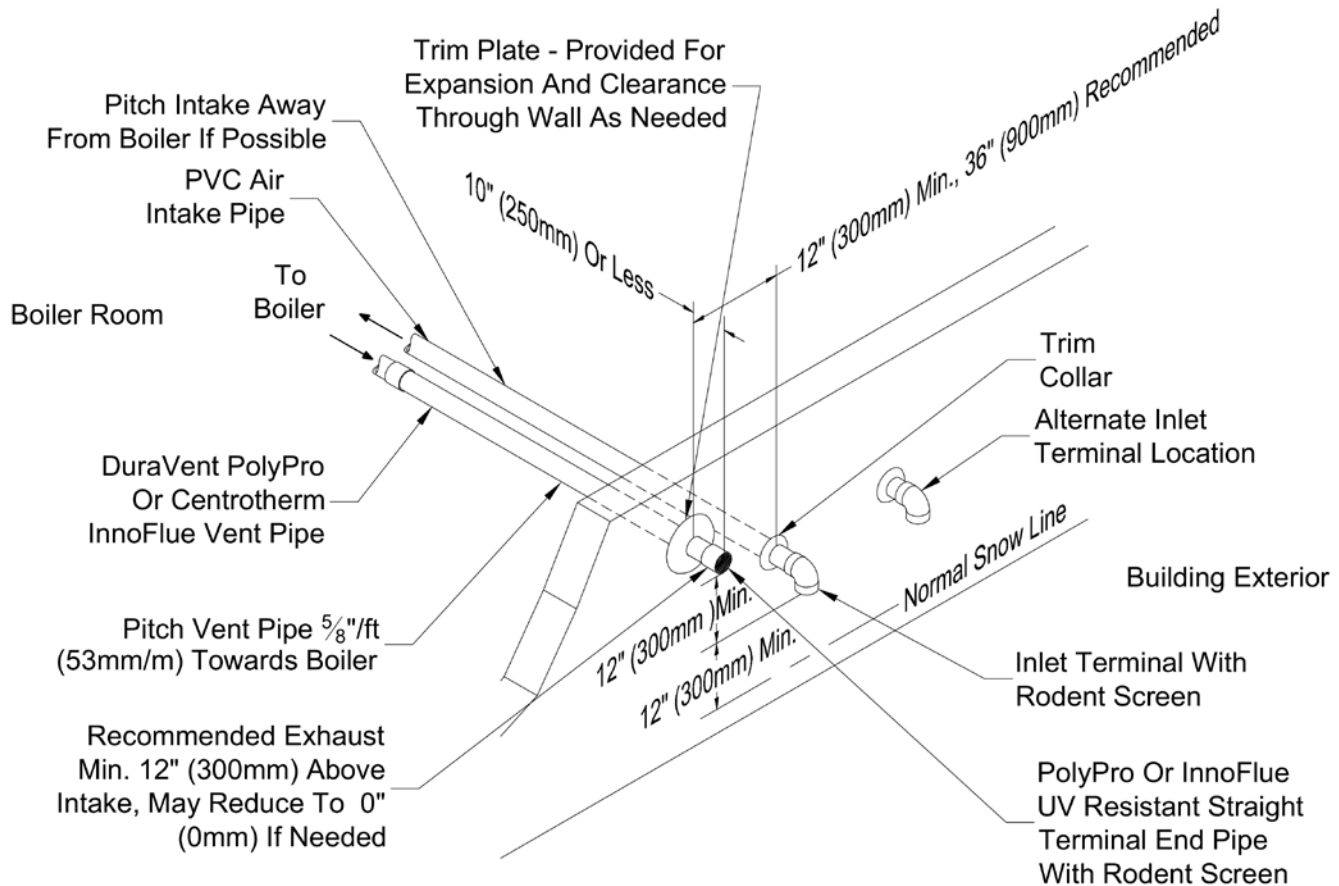

**Figure 7.7: Horizontal CPVC/PVC Venting with Low Profile Terminal, (Vent Options #1 & 2, Terminal Options B & C)**
**Terminal Option B: Ipex Low Profile Terminal (Acceptable for Vent Options 1,2)** – This terminal is shown in Figure 7.7. If the terminal is oriented vertically (alternate orientation shown in Fig 7.7) the exhaust opening must be on the top as shown. See Part VII-E of this manual and the Ipex instructions provided with the terminal, for installation details.
**Terminal Option C: Diversitech "Low Profile" Terminal (Acceptable for Vent Options 1,2)** – This terminal is shown in Figure 7.7. If the terminal is oriented vertically (alternate orientation shown in Fig 7.7) the exhaust opening must be on the top as shown. See Part VII-E of this manual and the Diversitech instructions provided with the terminal, for installation details.